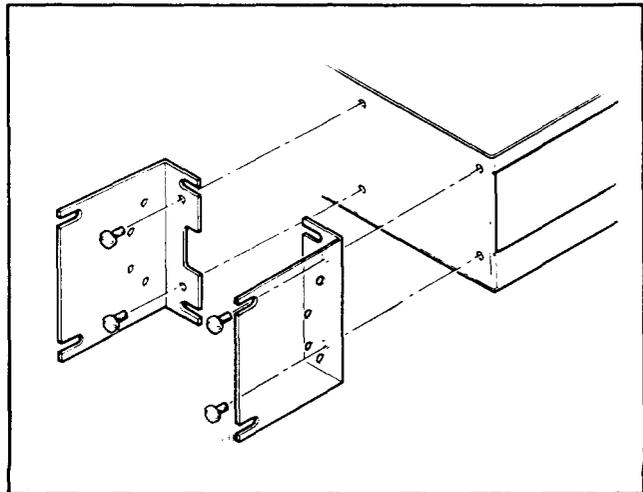

Fig. 4 Bracket Attachment 23 in. Rack Mounting
3.05 **Twenty-Three Inch Rack:** Refer to Fig. 4 and select the mounting configuration required. Attach each bracket using two of the screws provided, and a 5/16th in. flat bladed screwdriver.